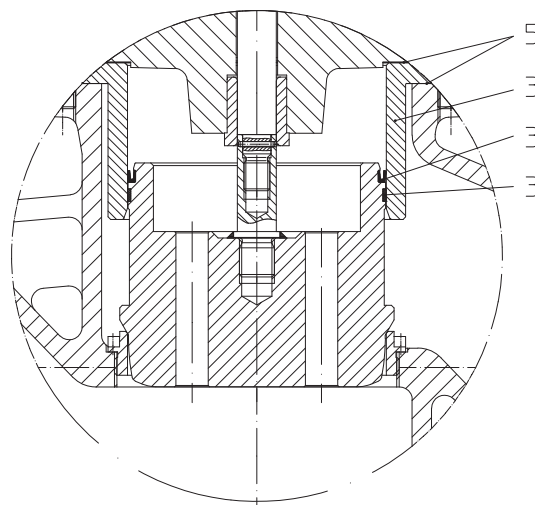

Fig. 12: Pressure balanced plug
- Remove plug as described in item 7.2.
- Prise worn piston seal (pos. 32) out of groove in plug with suitable tool (e.g. screwdriver).
- Insert new piston seal (pos. 32), taking care that it is in the correct position (refer to Fig. 12).
- Replace guide ring (pos. 31).
- Clean sliding surface of guide bush (pos. 30); smooth with fine abrasive if necessary.
- Replace 2 gaskets (pos. 5).
- Secure with nuts (pos. 10) and tighten them crosswise.